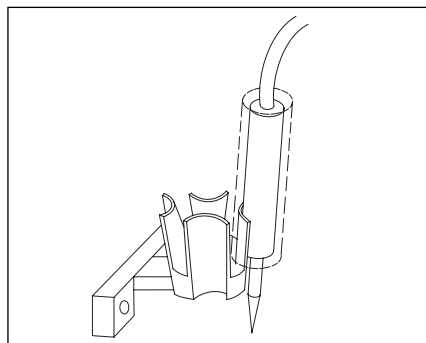

Figure 5.14
8. Insert dispense tip onto the tip holder until fully inserted (Figure 5.14).